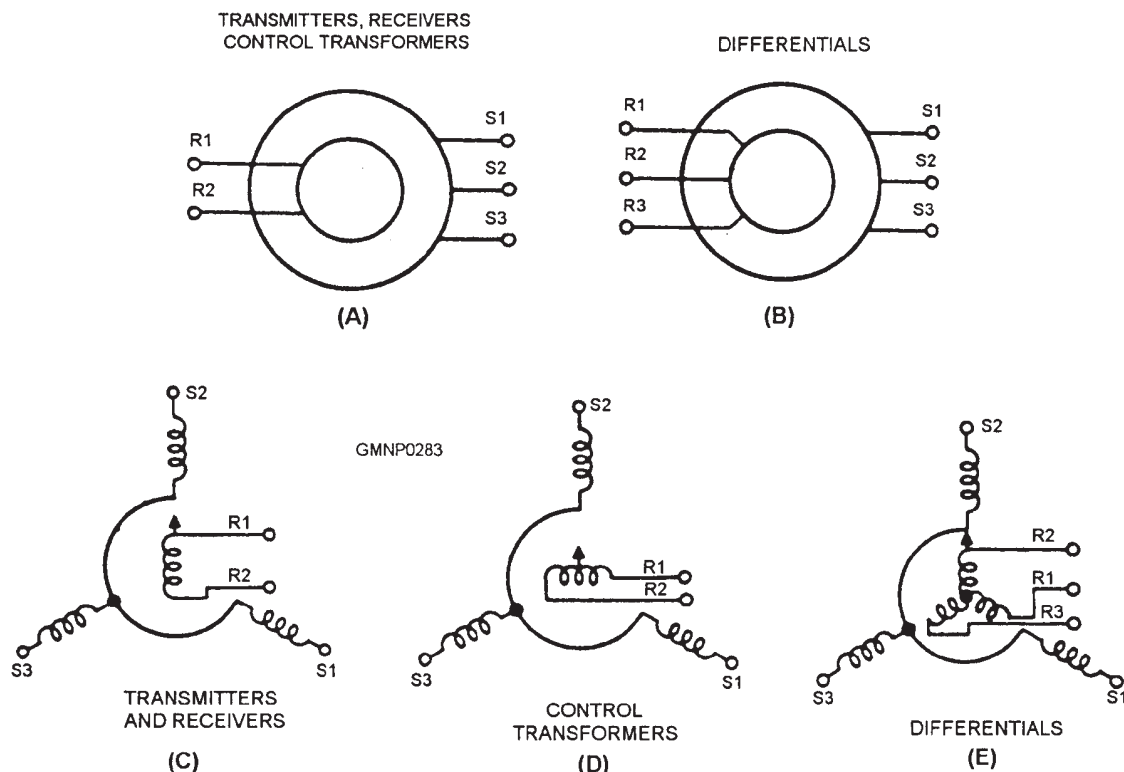

Figure 5-20.—Schematic symbols for synchros.
the symbols shown in figure 5-20. The symbols shown in parts (A) and (B) are used when it is necessary to show only the external connections to a synchro, while those shown in parts (C), (D), and (E) are used when it is important to see the positional relationship between rotor and stator. The small arrows on the rotors in parts (C), (D), and (E) indicate angular displacement of the rotor; in this illustration the displacement is zero.